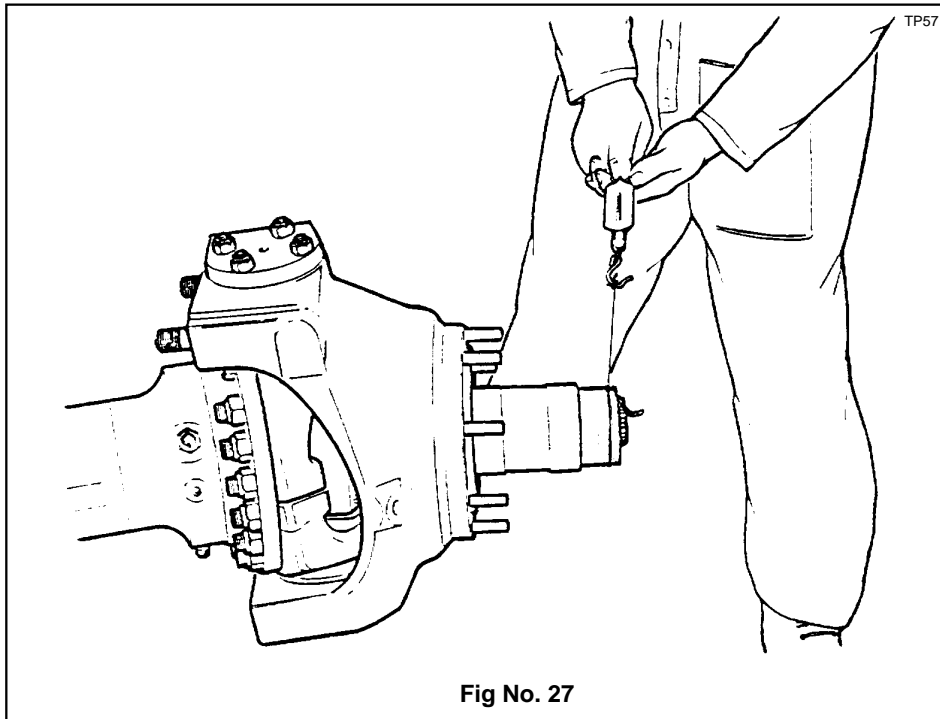

Fig No. 27
SECTION 17 RE-ASSEMBLY OF DBM U.J. UNITS ( Fig. no.27)
- a) Wrap a length of cord around stub, approximately 1" from outer end. (fig. no. 27).